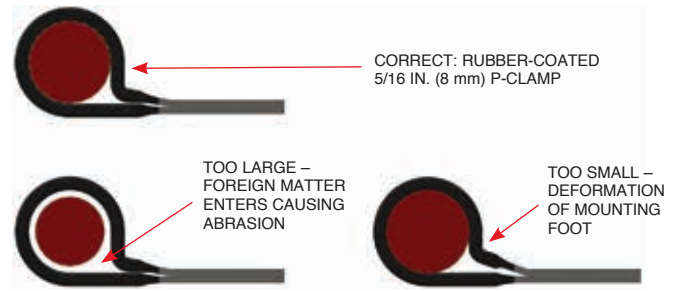

FIGURE 5-11
- Follow planned route in the layout drawing and install each circuit starting at the control module lead and work outward. Completely install one circuit at a time, finishing with the power circuit. Use correct size P-Clamps to avoid problems, see Figure 5-11. **Note:** Changes to the planned route will likely alter cable lengths needed for installation.